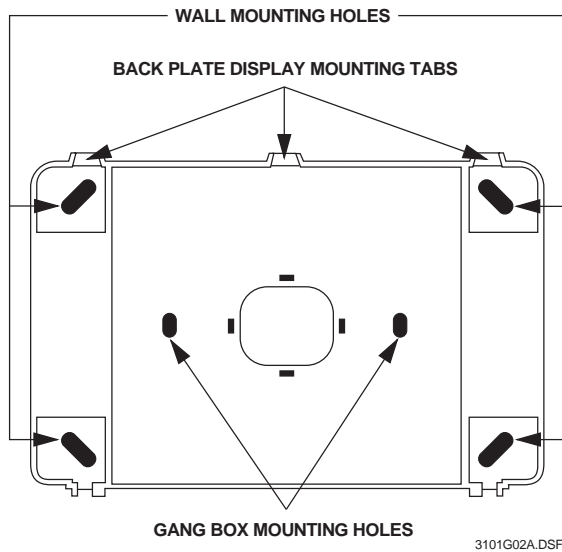

Figure 2. Back Plate and Mounting Holes
2. Place the back plate on the wall and mark the four mounting holes and the wire access hole (see Figure 2). Be sure to leave a 1-inch clearance on all sides of the back plate.
2. Line up the gang box mounting holes with the gang box holes (see Figure 2).